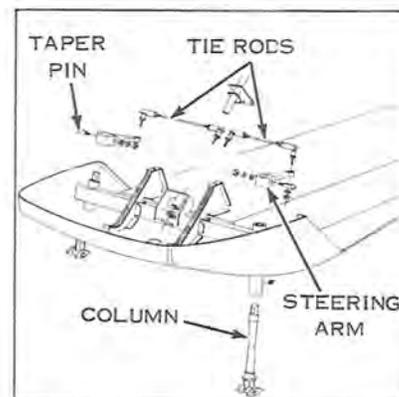

Figure 9-32
- Remove nuts and lockwashers from tapered lock pins (see Figure 9-32). Remove pins from tie rods. **NOTE:** To avoid damaging threads while removing pins, thread nuts onto pins until flush with threaded ends of pins. Drive pins out by tapping on nuts with hammer.